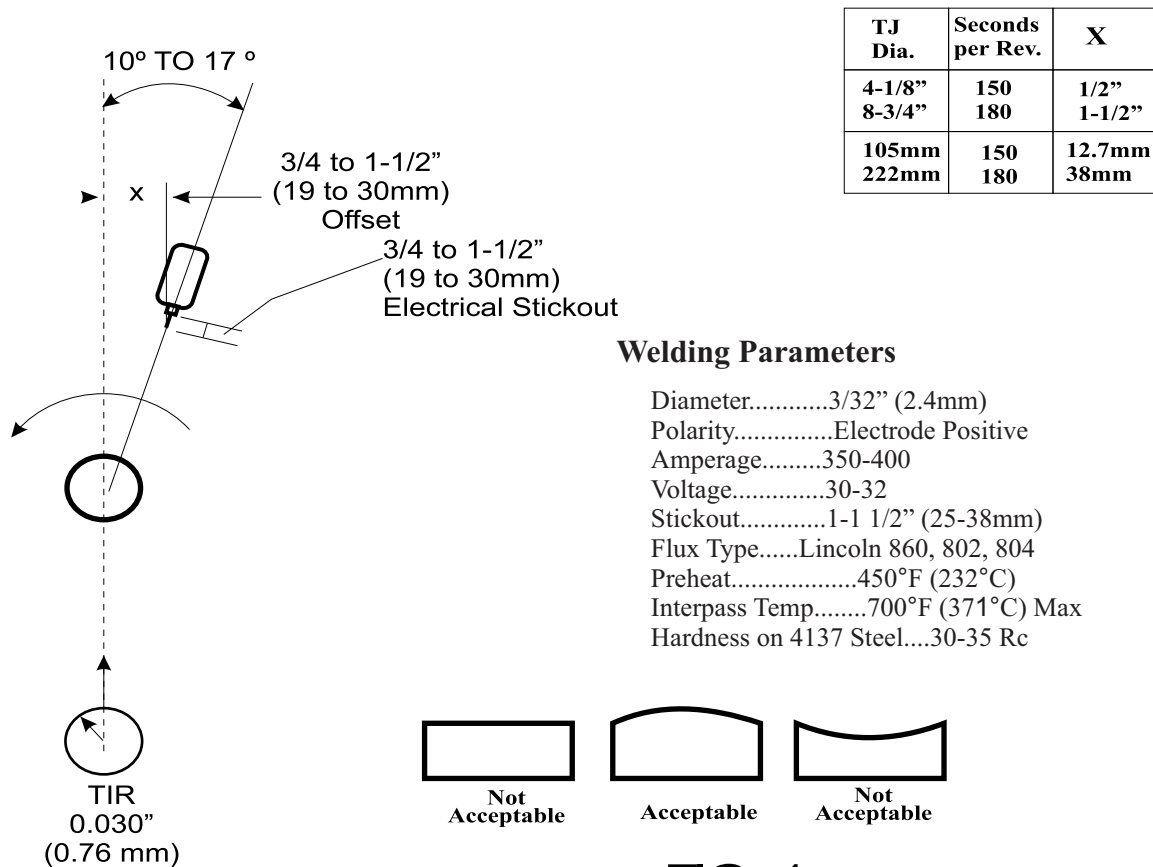

FIG. 1
- 8.0 Using pure argon or argon/oxygen mixtures as a shielding gas, commence welding, starting at the threaded end of the tool joint working toward the drill pipe body. See Fig. 1 for complete welding setup.